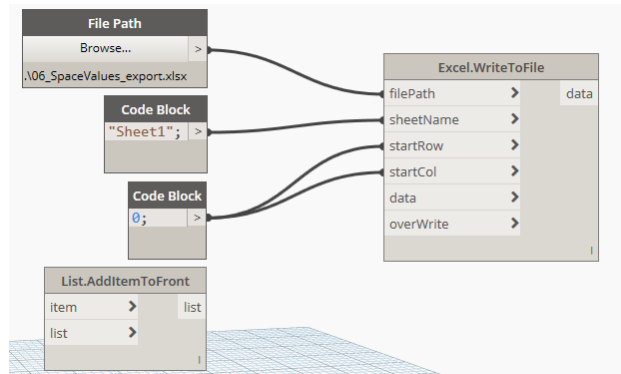

Figure 64
27. Wire this into the **filePath** input (see Figure 64).